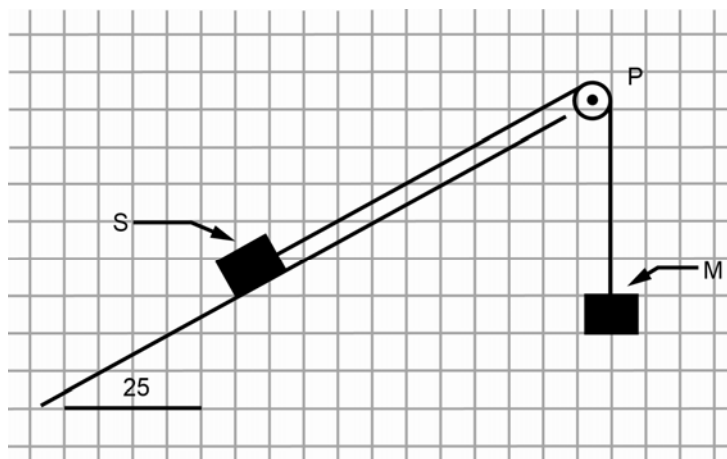

Fig. 8
Fig. 8 shows a sledge (S) of mass 500kg resting on a rough slope at  $25^\circ$  to the horizontal. The sledge is pulled up the slope by a cable, passing over a pulley (P), connected to a mass (M) of 800kg.